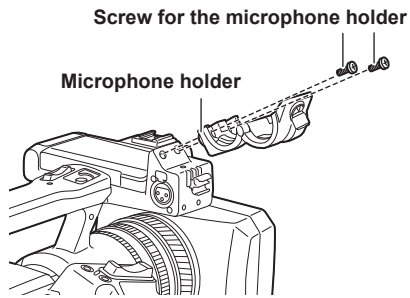

Fig. 1
- 1** Attach the microphone holder. (Fig. 1)